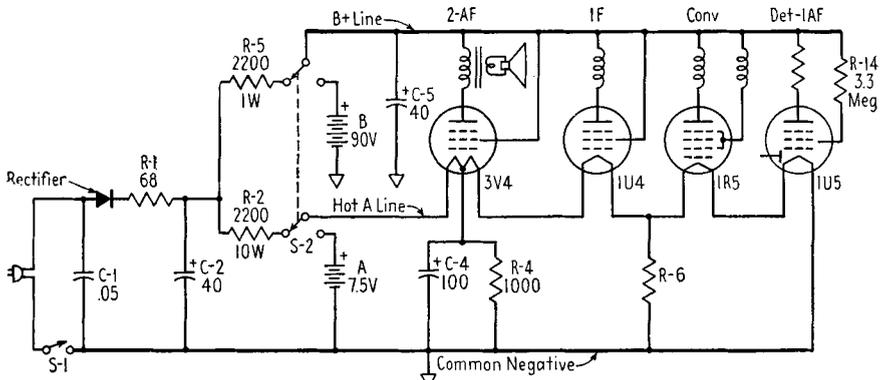

FIG. 19-15. Basic power supply in three-way portable receivers.
**Basic power supply diagram.** A basic power-supply diagram, useful in diagnosing service problems in three-way portables, is given in Fig. 19-15. Replacement data on batteries and hints on checking tubes were given earlier in the chapter. See Fig. 19-6.
**Normal voltage data for three-way portable receivers.** Normal voltages for the line power supply are given in Fig. 19-16. Unless the complaint specifies trouble when on battery operation, service work on three-way portables is carried out in the line mode of operation. The voltage chart is given for line operation and refers to the basic circuit of Fig. 19-15. The rectifier output voltage is measured from common negative to the cathode pin of a 35W4 or 117Z3 tube rectifier. In the case of a selenium rectifier, the voltage is measured at the soldering lug marked with a plus sign. Voltage on the *B* plus line is measured at the usual test point, the screen pin of the second AF tube (pin number 3 for a 3V4 tube). The *A* plus test point is most easily found at one end of the *A* filter resistor. This is easily recognized as a 10-watt unit, the only large resistor in the receiver. Refer to the diagram of Fig. 19-15 and observe that one end of this resistor will be at a potential close to 120 volts and the other will